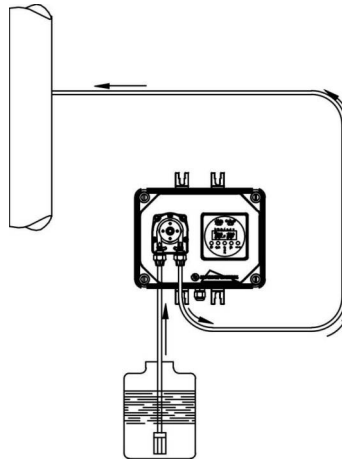

Fig. 3
- c.- Locate the pump as shown in fig. 3 bearing in mind that it may be installed either below or above the level of the liquid to be dosed, though the level difference should not exceed 2 meters. In the case of liquids that generate aggressive vapours, do not install the pump above the storage tank unless the latter is hermetically sealed.